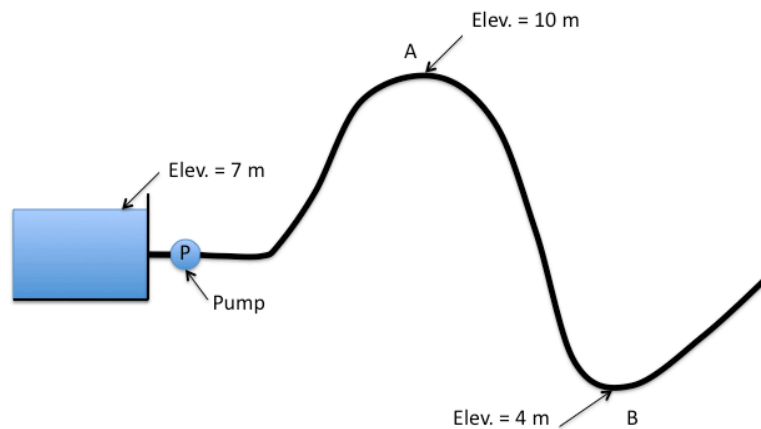

Figure 1: Reservoir-Pump-Transmission System Schematic
5. Water is pumped from a supply reservoir to a ductile iron water-transmission line as shown in Figure 1. The high elevation of the line is at point A, 1 kilometer downstream of the pump station, and the low elevation is at point B, 1 kilometer downstream of point A. If the discharge in the pipeline is 1 cubic-meter per second (cms), the diameter of the pipe is 750 millimeters (mm) and the pressure at point A is 350 kilopascals (kPa). Determine